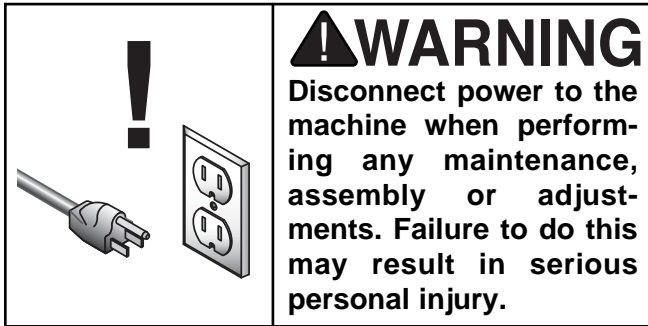

Figure 19. Removing sanding belt.
5. Pull the sanding belt tension knob down with one hand and work the sanding belt off the rollers with the other hand as shown in **Figure 19**.